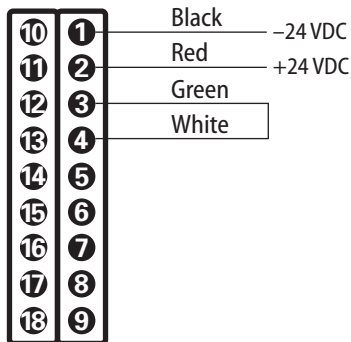

Figure 7 Simple Delayed Egress device with fire alarm
- Connect the GREEN and WHITE wires as shown in Figure 7. Connect the contact of the fire circuit to the power supply. See installation instructions for the power supply.